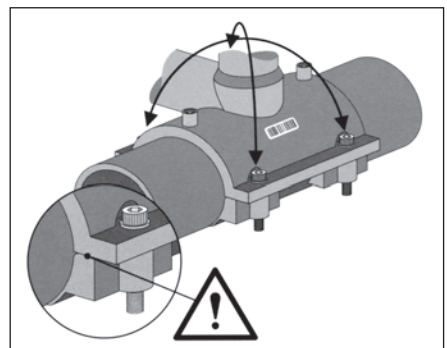

Fig. 16
- Tighten all four screws equally cross-wise **up to the stop** using an Allen wrench (see Fig. 16).